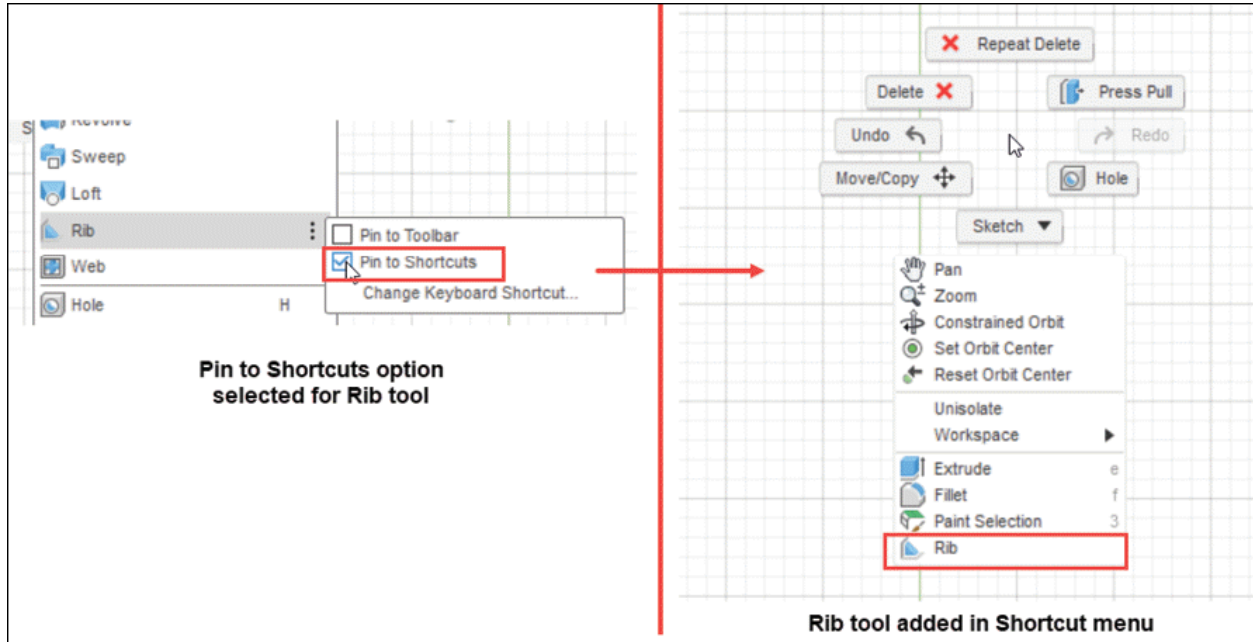

Figure-126. Adding tool to shortcut menu
- Select the **Pin to Shortcuts** check box from the shortcut menu for tool that you want to add in right-click shortcut menu/marking menu; refer to Figure-126.